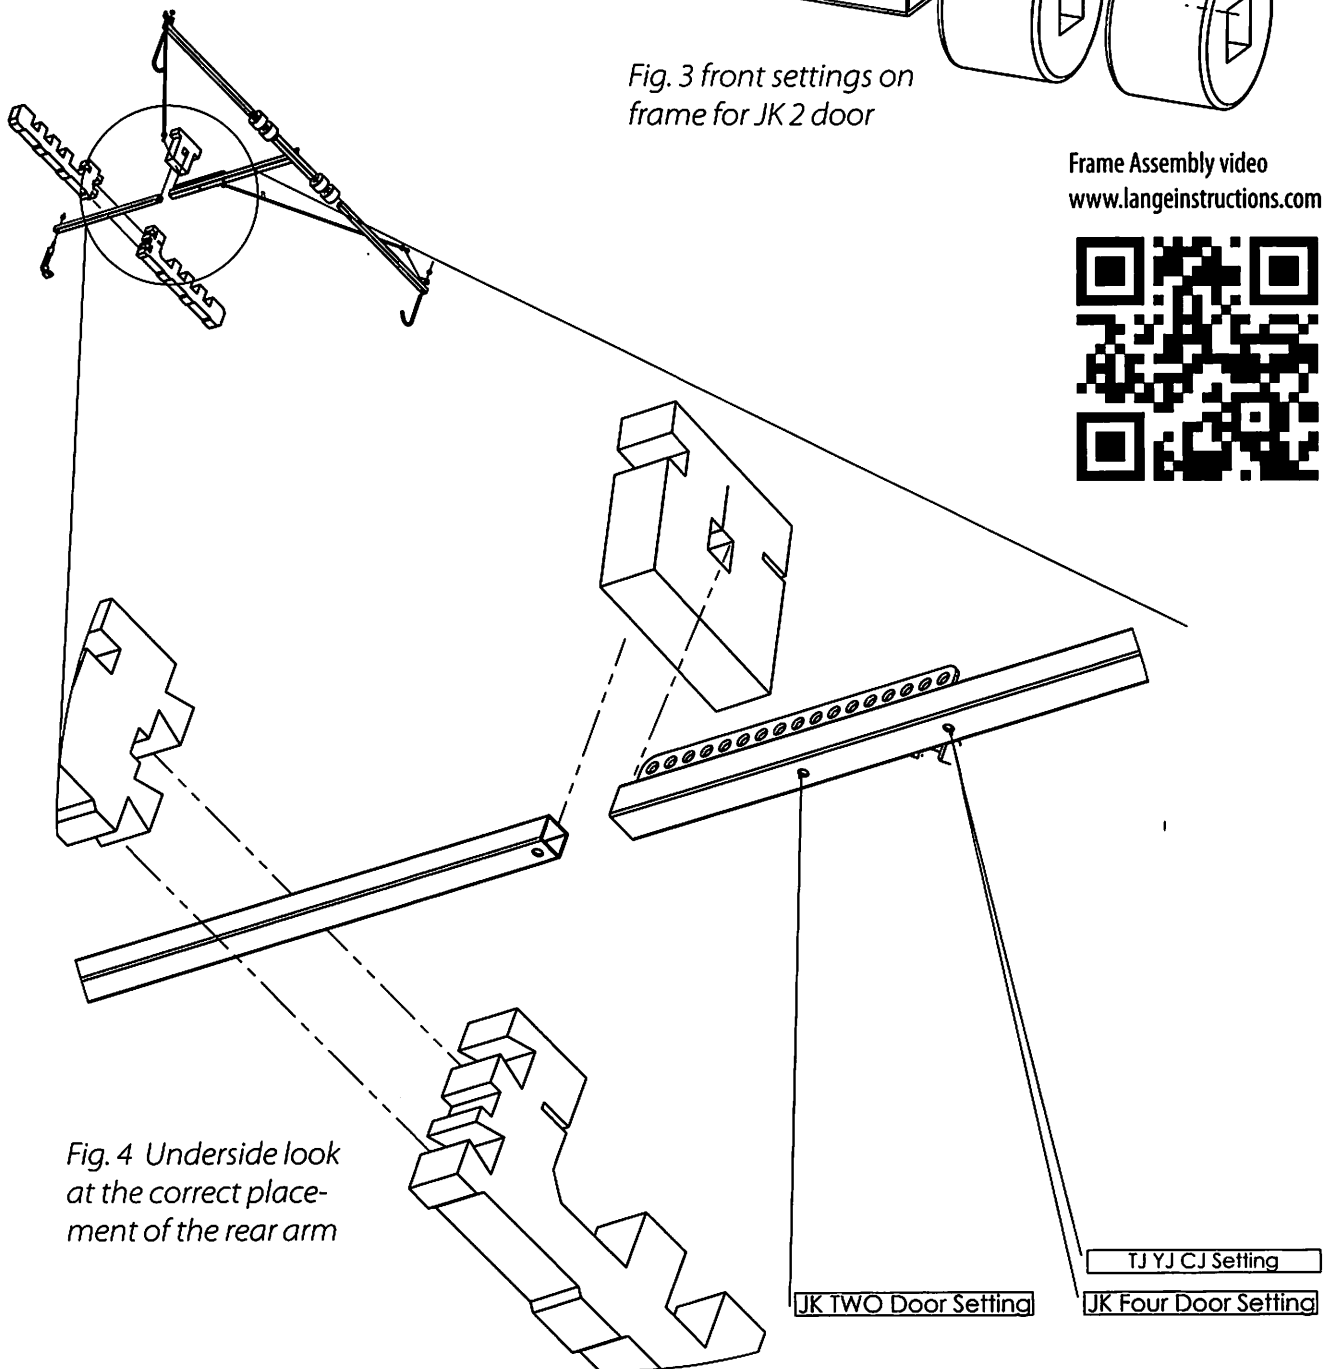

Fig. 4 Underside look at the correct placement of the rear arm
Begin frame assembly by locating the T shaped bar (2) depressing the spring buttons, and sliding the front arms (1) into the T shaped bar with the spring button facing up (corresponding with the drilled holes in the T), and moving them to the appropriate holes (see frame assembly fig. 3). Slide the black round foam pieces on the arms. These will protect your freedom top pieces from touching the frame and space the frame from your hardtop. The black round foam pieces should be spaced directly under your freedom top pieces when the system is used to store them. Slide the square shaped white foam piece (2d) on the base of the T over the lifting blade. There is a slit that allows you to do this. Pay close attention to the direction of the front foam in figure one, and orient it likewise. Put the rear bar (1) with spring button facing down, into the base of the T and click the spring button in the corresponding hole for your Jeep (Fig. 4). Put the J hooks in the front holes through one side of the grommet strap (4d) and thread nyloc nuts on, so that 3 threads are past the nylon part of the nut. Find the rear Smart Hook™ and attach it to the base of the T shaped frame by threading it into a nyloc nut until three thread show. Do not over-tighten these hooks. Hook bungee cord to grommet strap, and any free hole in the lifting blade. Assemble long foam supports (3d) on the rear arm sliding the dovetail pieces together and the rectangle lined up with the rear arm. Insert plastic end caps.